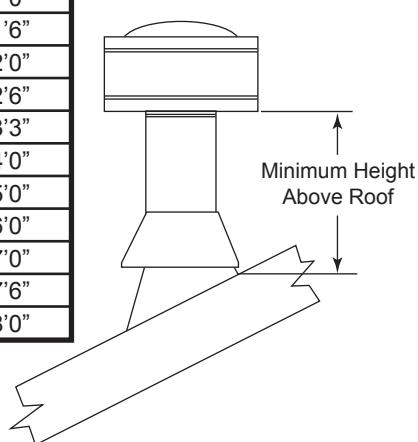

Fig. 44 Minimum Height Above Roof Requirements
11. Add lengths of pipe and firestop as necessary until assembly extends to a point above the roof which complies with local code requirements for minimum termination height and with the appliance manufacturer's installation instructions. (Fig. 44)